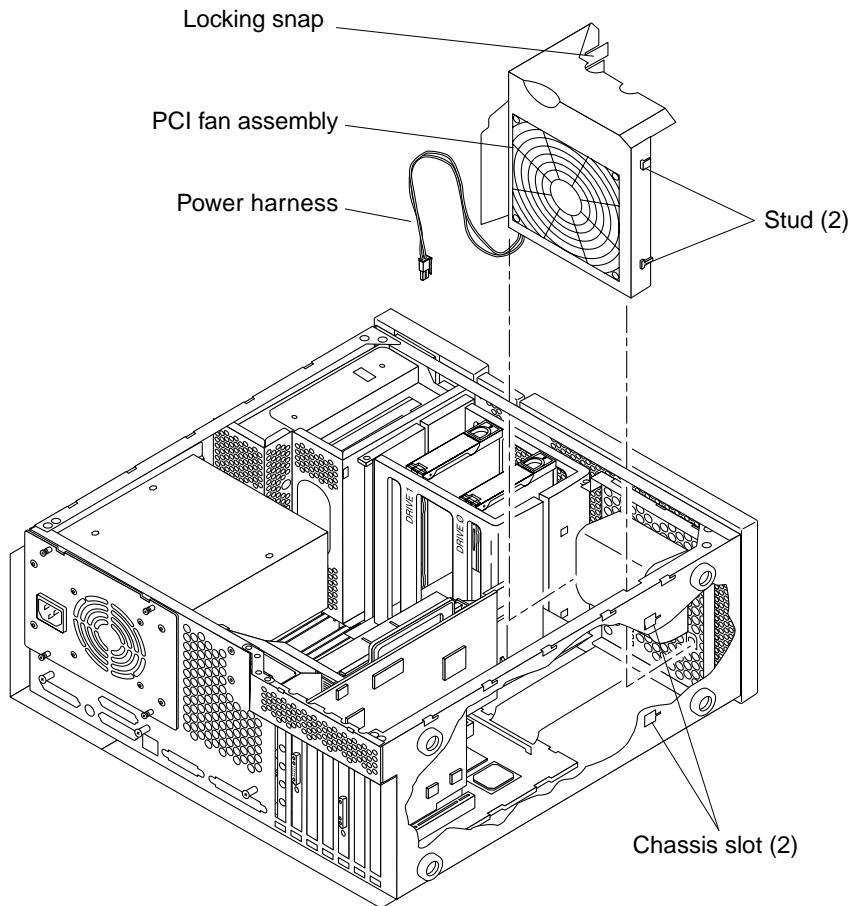

FIGURE 8-3 Removing and Replacing the PCI Fan Assembly
4. **Disconnect the PCI fan assembly as follows (FIGURE 8-3):**
1. **Position the PCI fan over the speaker assembly** (FIGURE 8-3).
2. **Connect the PCI fan as follows** (FIGURE 8-3):